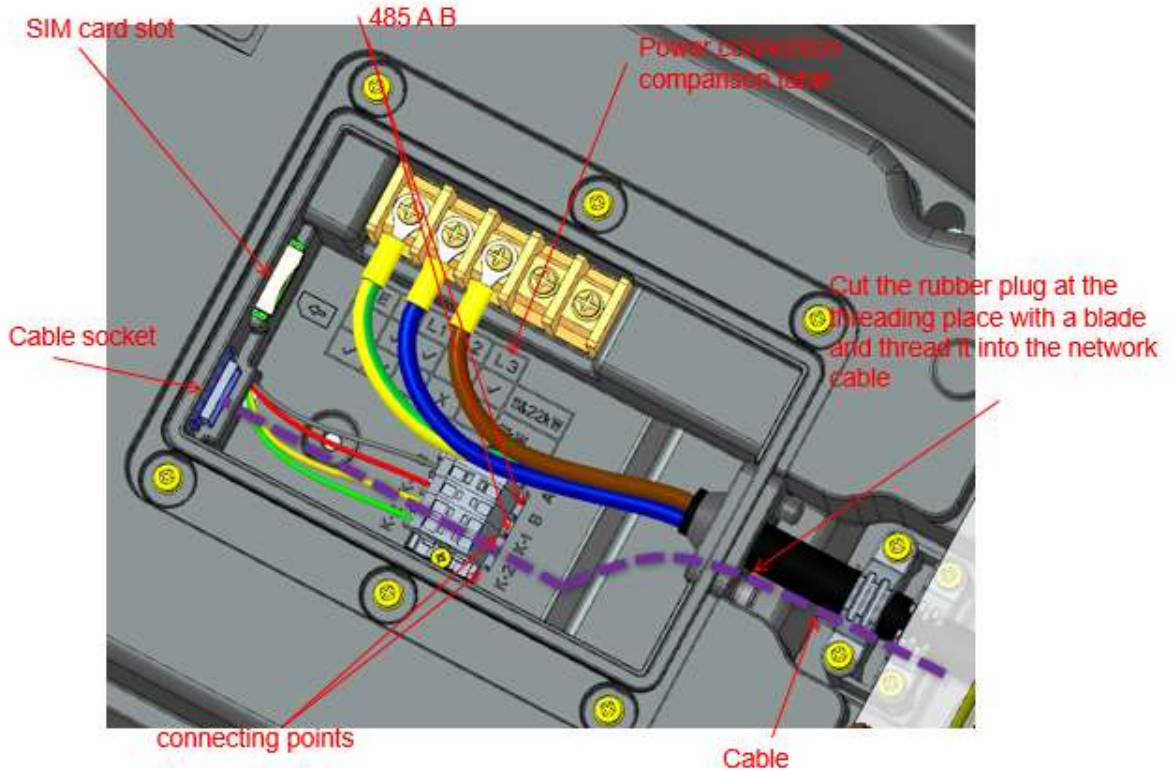

Figure A-14 7kW wiring diagram
7. (Optional) If an external shunt trip is required, the two connecting points reserved according to the indicated position of the product shall successively connect the shunt trip control circuit with a voltage not higher than 230Vac and a current not exceeding 1A in the control circuit, as shown in the following Figure A-14: